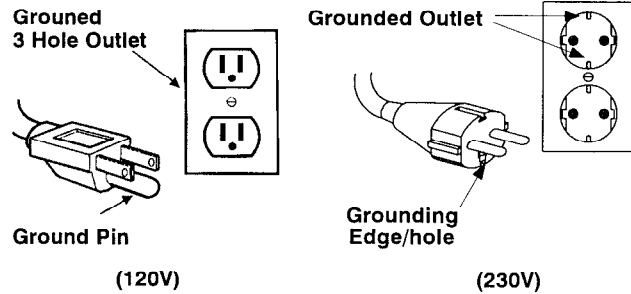

FIG. 24.
- Plug charger into a grounded wall outlet **after** connecting charger to machine. (Figure 24)